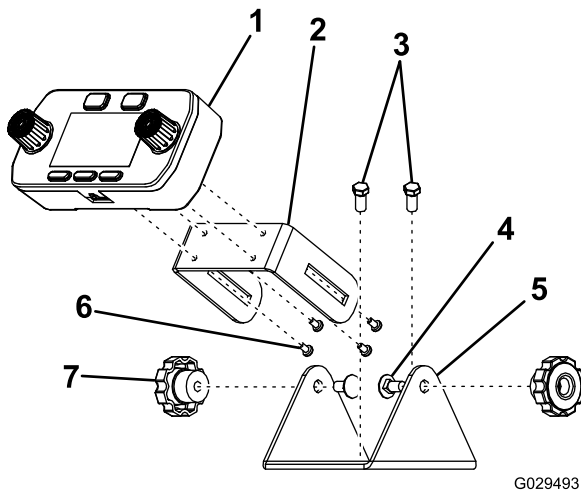

Figure 12
3. Attach the sliding bracket to the mounting bracket using 2 carriage bolts and thumb nuts (Figure 12).
1. Attach the mounting bracket to the vehicle using either 2 hook and loop fasteners or 2 sheet-metal screws (Figure 12).
2. Connect the controller display to the sliding bracket using 4 pan-head screws (Figure 12).